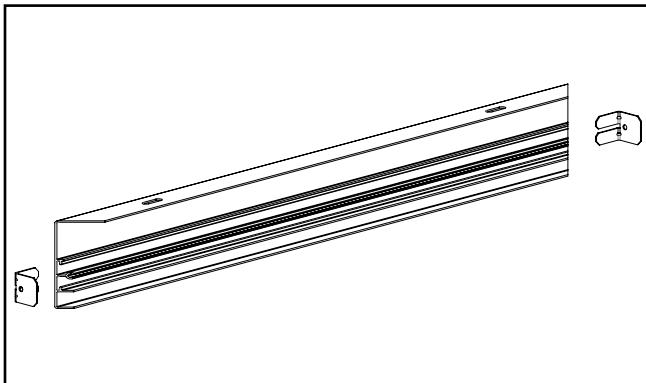

Figure 1.
1. Slide two (2) L - Brackets into the screw channel of frame. (Figure 1.)